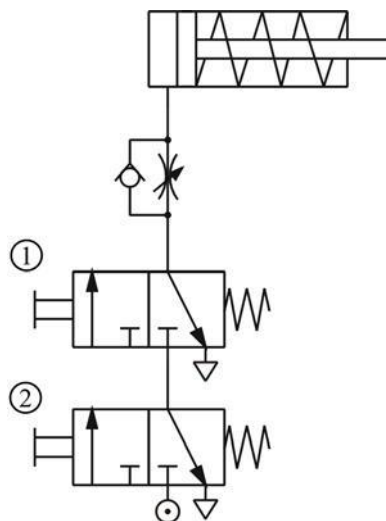

Fig. 30 Circuit diagram of an AND function circuit
Another name for an AND function is interlock control. This means control is possible only when two conditions are satisfied. A classic example is a pneumatic system that works only when its safety door is closed and its manual control valve is operated. The flow passage will open only when both control valves are operated. Fig. 30 shows the circuit diagram of an AND function circuit. The cylinder will work only when both valve ① and ② are operated.